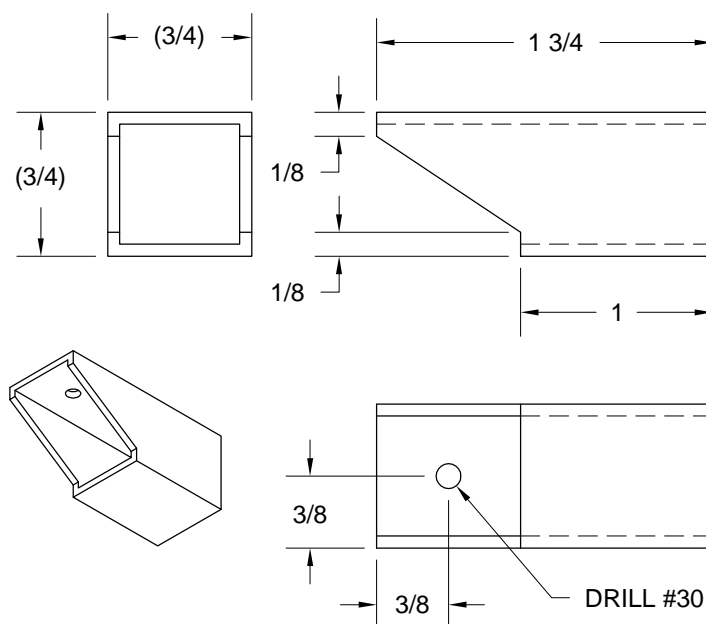

FIGURE 2: FABRICATE EXTENSION
Step 2 (EARLY PRODUCTION FRAME): Fabricate C-1218 Extension from AT6-063X3/4 square tube as shown in Figure 2.